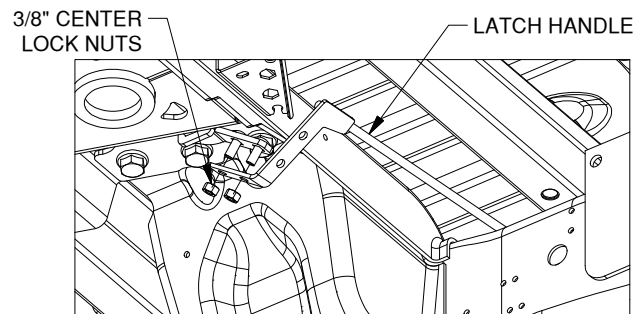

Figure D2: Looking back at driver side of center section.
- 2. Install the latch pin handle.** Beginning under the vehicle, "thread" the end of the handle, with the vinyl grip, in front of the brake lines and over the frame on the drivers side. Attach the handle to the latching mechanism over the 3/8 carriage bolts with two 3/8 locking flange nuts, see figure D2. Be sure that the handle is in the proper position and that it does not interfere with any other components of the vehicle. Torque the nuts to 30 ft. lbs. to secure the handle.